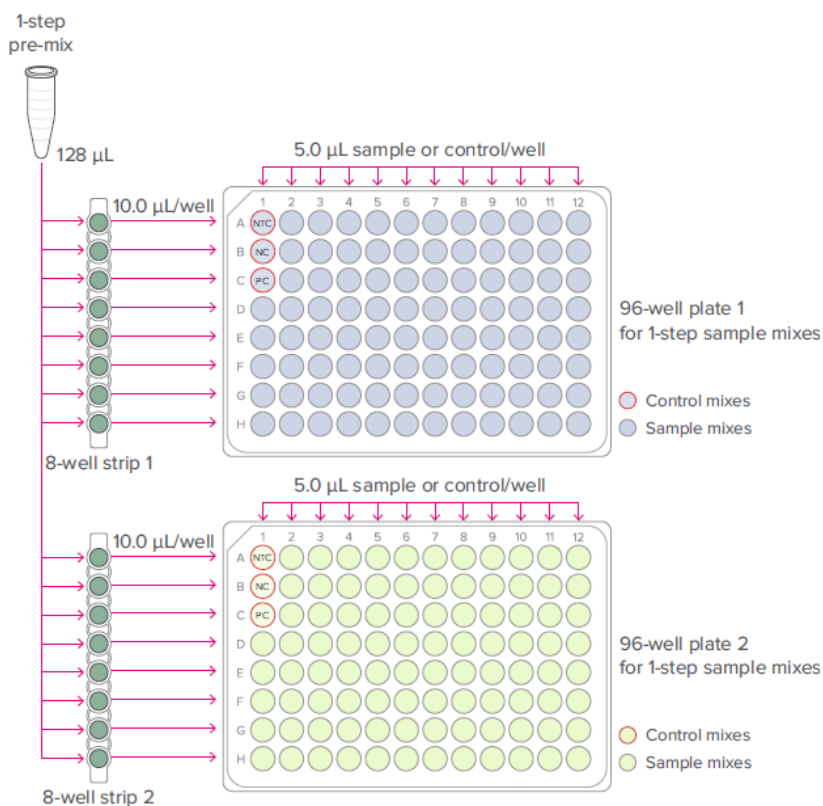

Figure 1. 1-step reaction plates (per-well transfer volumes)
- 5** Using an 8-channel pipette, combine the 1-step pre-mix and the samples or controls in 2 new 96-well plates as shown in Figure 1.
- b** Next, add 5.0 µL of each control into wells A1 (NTC), B1 (NC), and C1 (PC) of each plate.